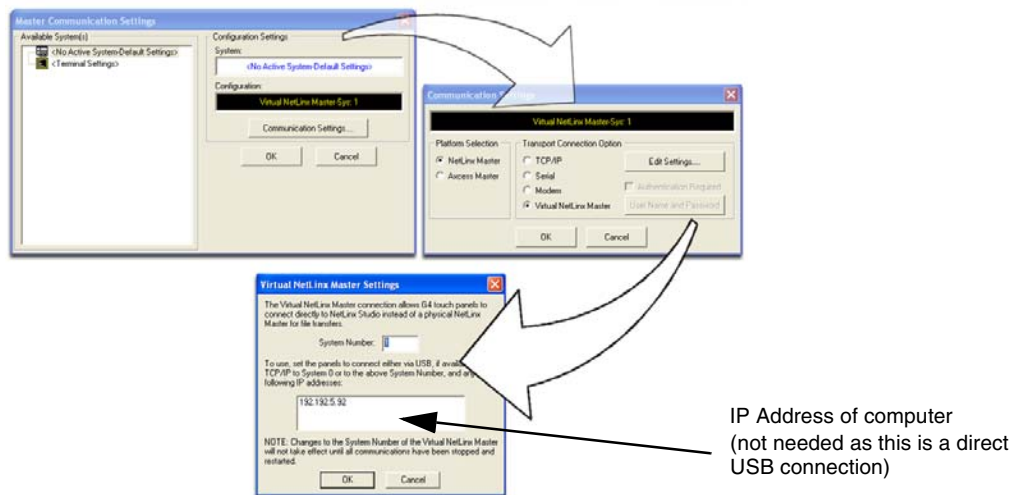

FIG. 72 Assigning Communication Settings for a Virtual Master
2. Select **Settings > Master Communication Settings**, from the Main menu to open the Master Communication Settings dialog (FIG. 72).
6. Click the **Edit Settings** button (on the *Communications Settings* dialog) to open the *Virtual NetLinX Master Settings* dialog (FIG. 72).